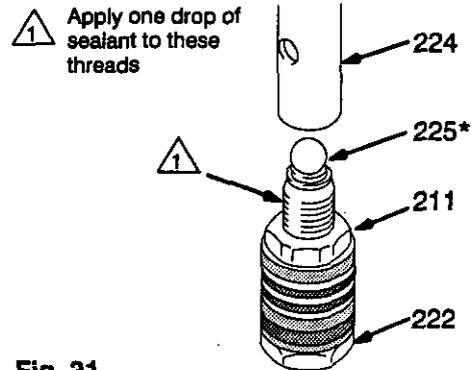
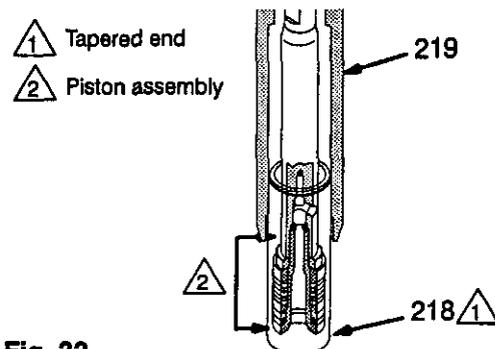

Fig. 31 0028
Fig. 32 0030
- Apply **ONE** drop of adhesive, supplied with the repair kit, to the piston threads. Place the ball (225*) on the piston. Hand tighten the piston into the rod (224) just until the nut (211) contacts the rod. Place the flats of the rod in a vise. See Fig. 31.
- Tighten the nut (211) onto the rod (224) to 25 N.m. Use two wrenches to maintain the alignment as mentioned in the NOTE above.
- Stack the throat packings into the top of the cylinder (219). Install the packing nut (216) loosely.
- Install a new packing (202) on top of the sleeve. Insert the piston rod assembly into the **top of the sleeve**. Slide the sleeve assembly into the **bottom of the cylinder**. Note that the tapered end of the sleeve is the bottom. See Fig. 32.